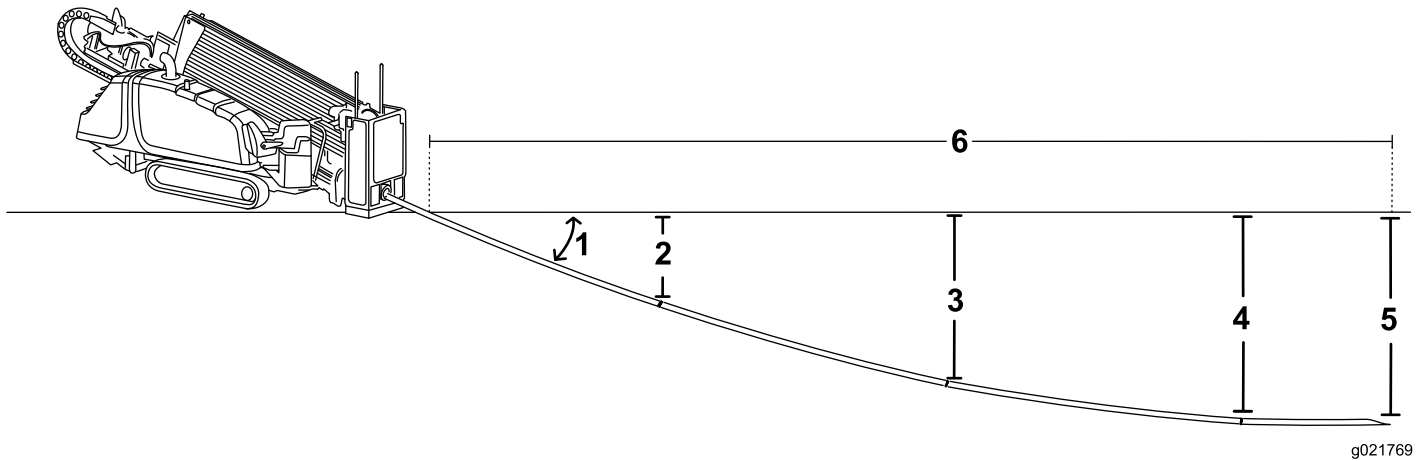

Figure 29
- You insert the first 3 m (10 ft) of drill bit/pipe into the ground with no steering. The end of the drill bit will be 53 cm (21 inches) deep (Figure 29).